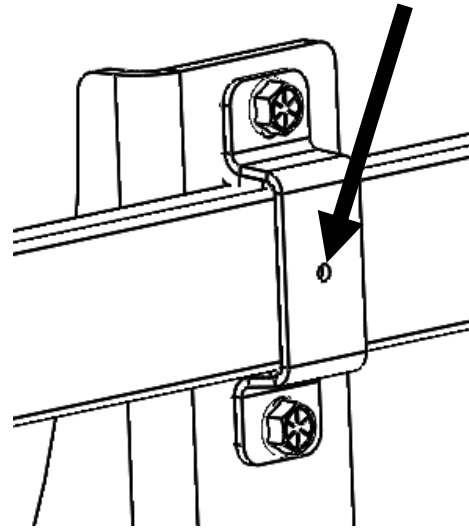

Figure 2.1 (Bracket hole for self-drilling screw)
2. Using a single sealing washer with each of the self-drilling screws, begin drilling the screws in place at the two locations highlighted in Figures 2.1 and 2.2 on each of the tool bars.